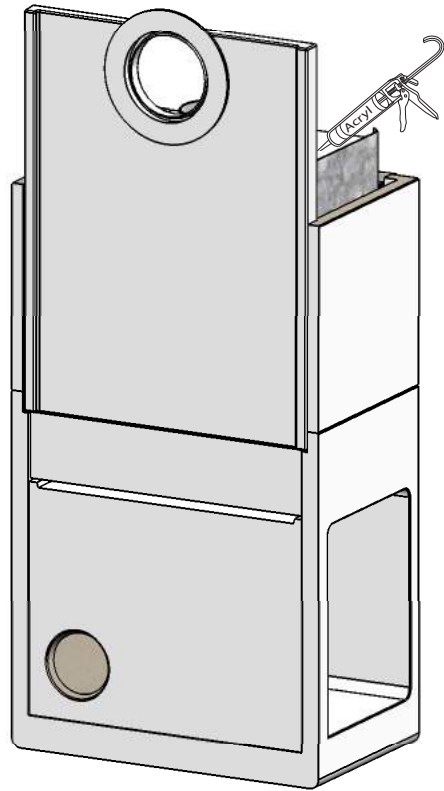

FIG 9 T
**FIG 9:** Place the heatshield around the flue. When connected at the top, let the heatshield remain intact. When connectet at the rear, carefully remove the perforated area in the heatshield and place it around the flue.